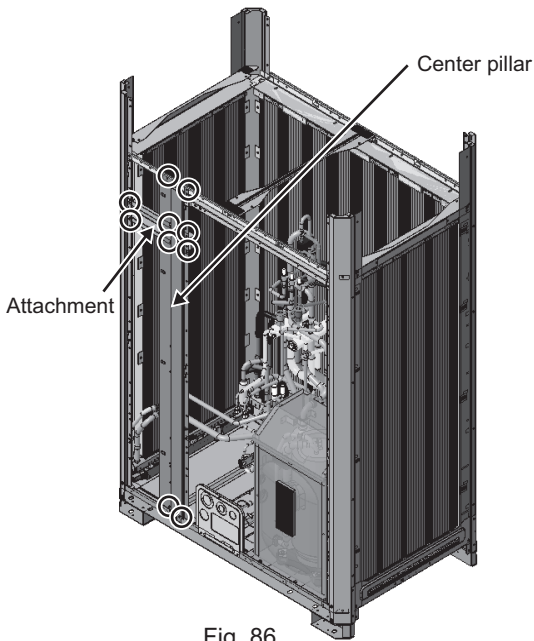

Fig. 86
(10) Remove the center pillar on the front of the unit and the fixing attachment. (Eight screws on the pillar, and two screws on the attachment: Fig. 86)